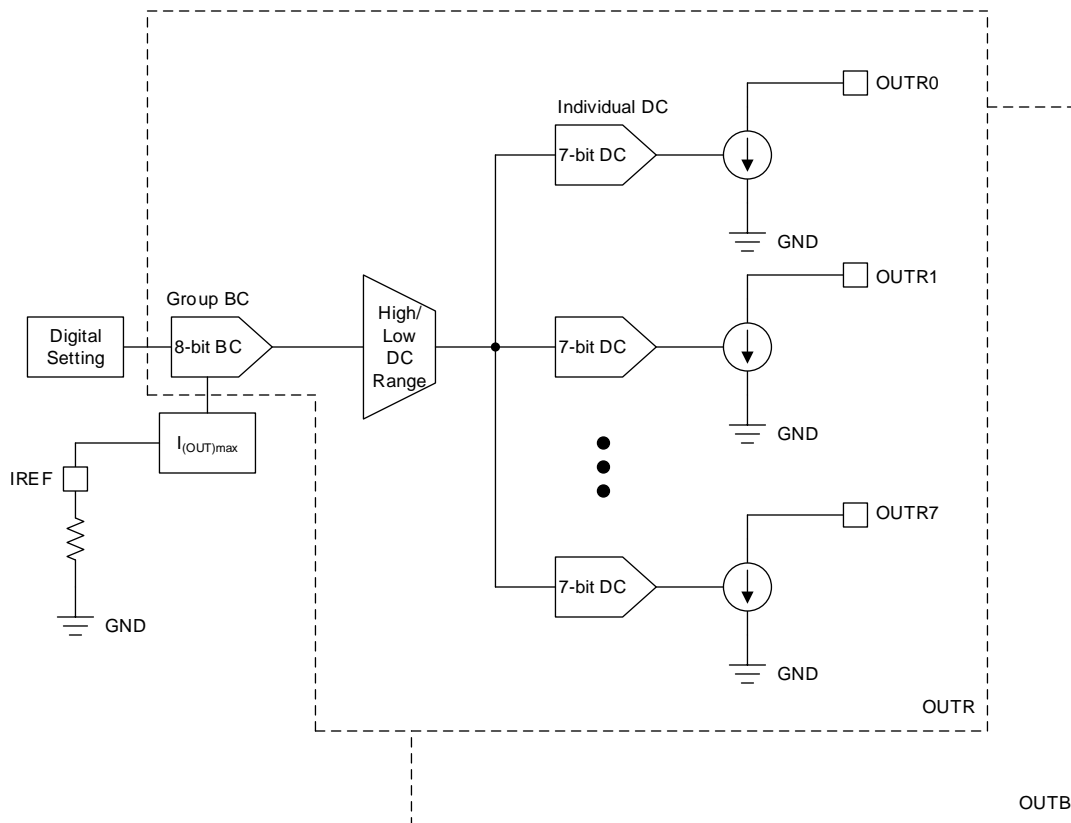

Figure 21. Brightness Control and Dot Correction Block Diagram
The TLC6C5716-Q1 device implements an 8-bit group brightness control (BC) and 7-bit individual dot correction (DC) to calibrate the output current. The 16 output channels are divided into two groups: OUTRn and OUTBn. Each group contains 8 output channels. There are two configurable ranges for the DC value of each group. One is the low DC range with output current from 0 to 66.7%  $I_{(OUT)max}$ , the other is the high DC range with output current from 33.3%  $I_{(OUT)max}$  to 100%  $I_{(OUT)max}$ . The IREF resistor, BC, DC, and DC range together determine the channel output current, as shown in Figure 21. Equation 2 and Equation 3 are the detailed output current calculation formulas.